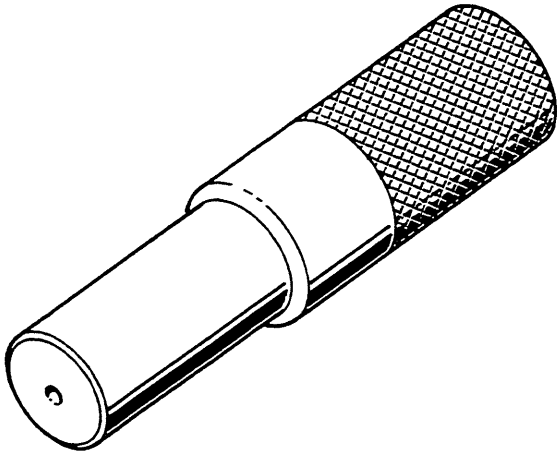

Fig. 27
- Centering tool, No. 3376887 M1 (Fig. 27)